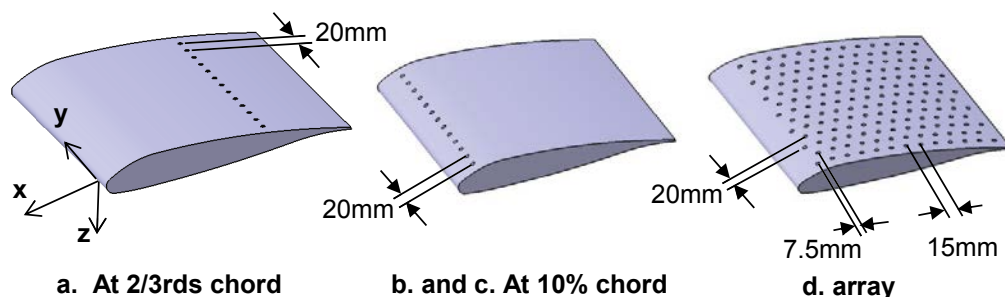

Figure 5: Positioning of bumps or dimples on wing as seen from below
- A row of dimples at 10 per cent of the chord length, 20mm spacing in the y direction (**Figure 5.b**). This is to compare the effect of dimples vs bumps and check the hypothesis put forward in some previous non-motorsport research that bumps work better than dimples (although the advantage is small; 10 per cent to 20 per cent). Any difference is useful to know as it is felt that it would be simpler (and therefore cheaper) to add bumps rather than create indents.
- An array of bumps in the horizontal x-z plane, with a line of bumps every 20mm in the y direction. This row of bumps is repeated in the x direction, with spacing every 15mm, starting at 10 per cent of the chord length and continuing until the trailing edge is reached. Every other x direction row is displaced by 7.5mm in the x direction to give a pseudo random effect (**Figure 5.d**).